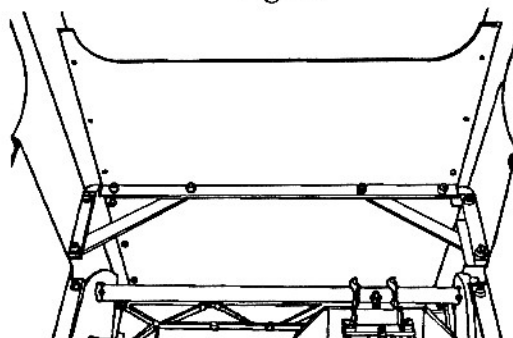

Fig. 11
17. Attach a side panel (17) to the two base cabinet holes using bolts (26), flat washers (28), split lock washers (27) and hex nuts (26), as described in Steps 9–13. Finger tighten. (Remember to not insert bolts where the corner braces are located at this time.)
18. Repeat Steps 16 and 17 for the other side panel (17).
19. Place the four corner braces (29) **under** their original holes, as shown in Fig. 11, and attach them to the base using bolts (26), flat washers (28), split lock washers (27) and hex nuts (26), as described in Steps 9–13. Finger tighten.